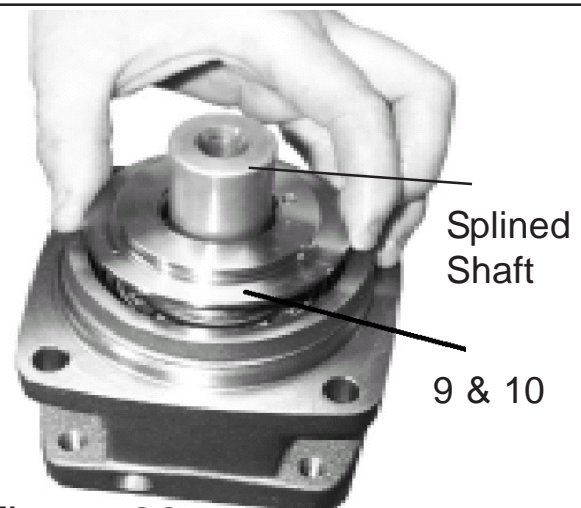

Figure 26
9. Install Seal and Seal Carrier. The Seal Carrier (item 9) has a shaft seal (item 10) that is installed into it. This needs to be installed before Seal carrier is installed into Bearing housing. (See Figure 26)